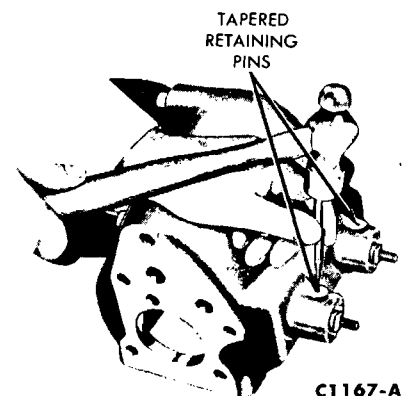

FIG. 7—Removing Cam and Shaft Retaining Pins
1. From the underside of the case, use a punch to drive out the tapered pins that hold the cam and shaft assemblies in the case (Fig. 7). Use **hard, firm blows**. Using a plastic hammer, drive the intermediate and high cam and shaft toward the inside of the case and separate the detent balls and spring from the plunger. Push out the cam and shaft assemblies, and remove the plunger.